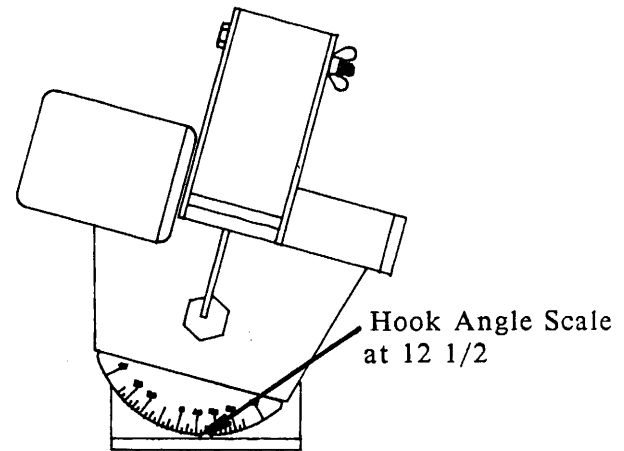

FIGURE 5
2. Set the hook angle by using the indicators at the back of the throat (See Figure 5). The numbers and hash-marks indicate how many degrees the grinding head is tilted for hook angle. Set the hook angle gauge with the rivet head at the back of the throat. As a general rule, this angle should be set at $12\frac{1}{2}$ degrees for most woods. The hook angle can range from 10 to $12\frac{1}{2}$ degrees for hardwoods and $12\frac{1}{2}$ to 15 degrees for softwoods.